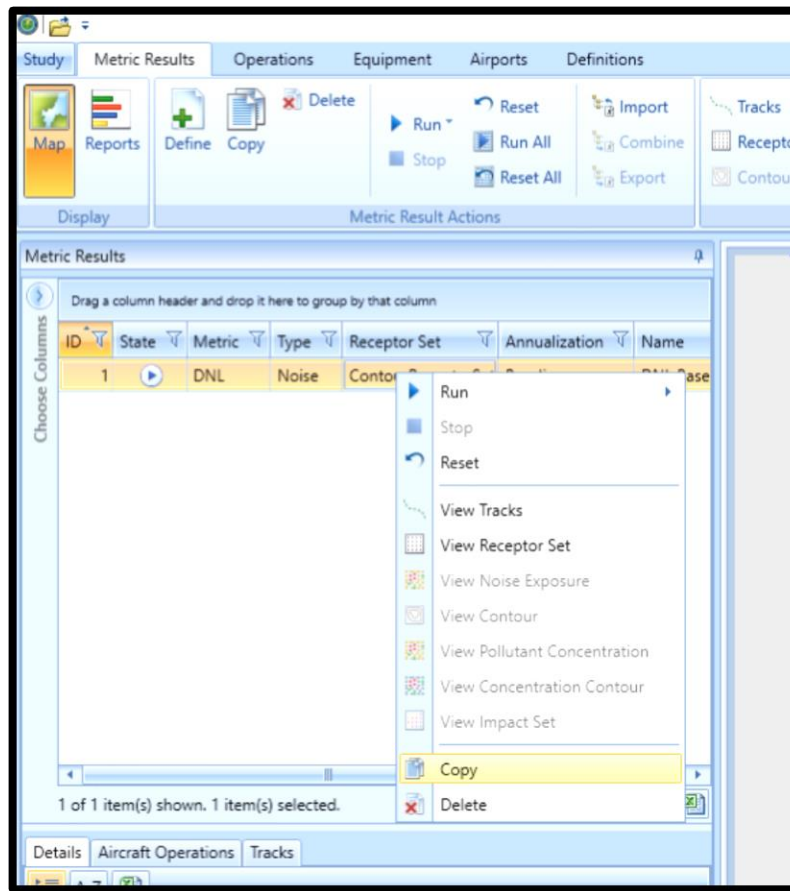

Figure 24- Copy Metric Result
1. Select the Baseline metric result under the *Metric Results* ribbon, right-click and select *Copy* (Figure 24).